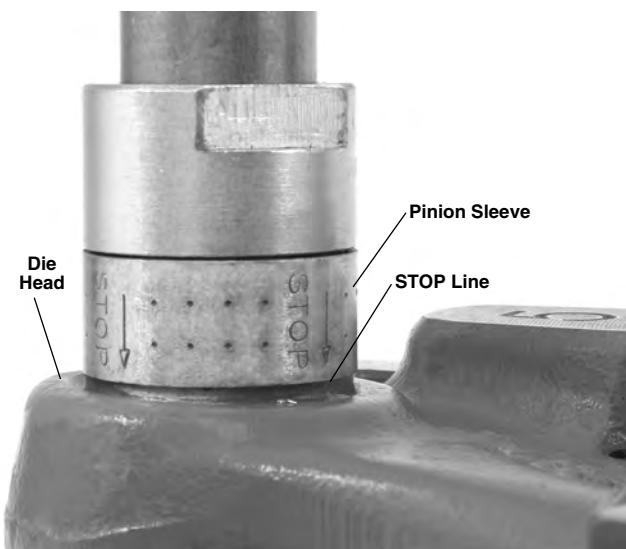

Figure 8 – Thread Complete – Top of Die Head Flush With STOP Line
5. Continue ratcheting until the top edge of the die head is flush with the red stop line on the pinion sleeve (see *Figure 8*).
12. Continue threading until the edge of the die head is flush with the red stop line on the pinion sleeve (*Figure 8*). Release foot switch. If threading is continued past the red stop line, the pinion shaft will disengage to prevent jamming. Do not continue to operate with the pinion shaft disengaged – over time this can cause tool damage.